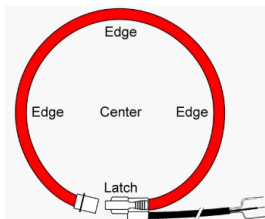

Figure 3: Flexible coil edges
- The conductor should pass through the center of the coil, and not close to the coil's edge, as illustrated in *Figure 3*.